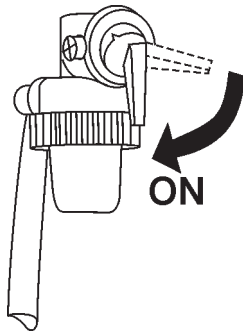

Figure 9. Engine Fuel Valve Lever (ON Position)
1. Place the engine **fuel valve lever** (Figure 9) to the "ON" position."